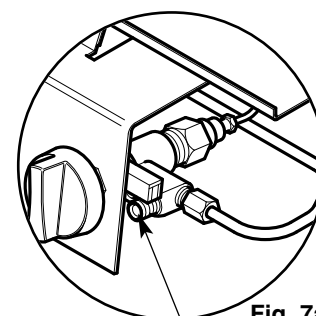

Fig. 7a
2. Take a pressure reading and consult the technical data (page 7) to establish the correct working pressure. The burner pressure can be tested at the point shown in Fig.7a.